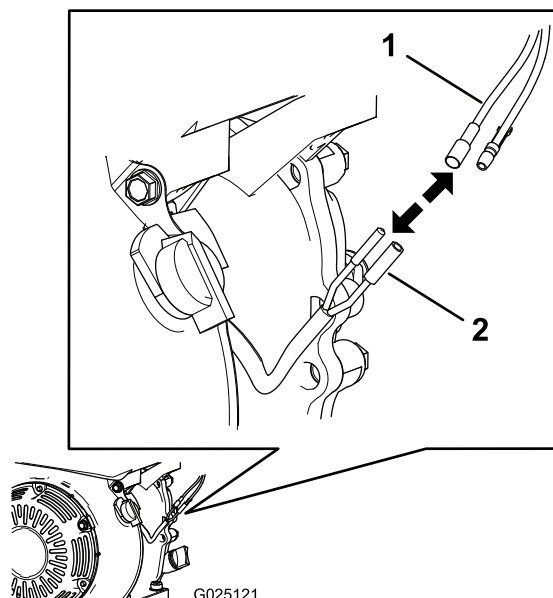

Figure 1
2. Disconnect the existing hour-meter wiring harness from the lighting-coil wires and the existing hour meter (Figure 1).